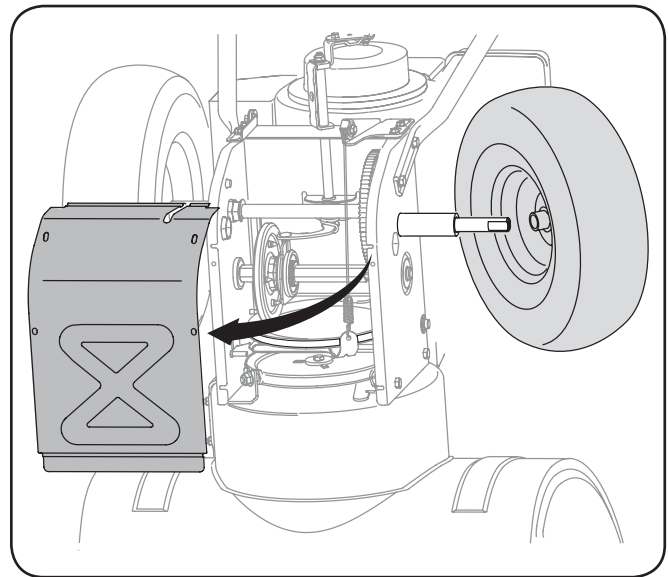

Figure 7-8
3. Remove the frame cover from the underside of the snow thrower by removing four self-tapping screws which secure it. See Fig. 7-8.
4. Remove the frame cover from the underside of the snow thrower by removing the self-tapping screws which secure it. Remove the right-hand wheel by removing the screw and bell washer which secure it to the axle. See Fig. 7-8.